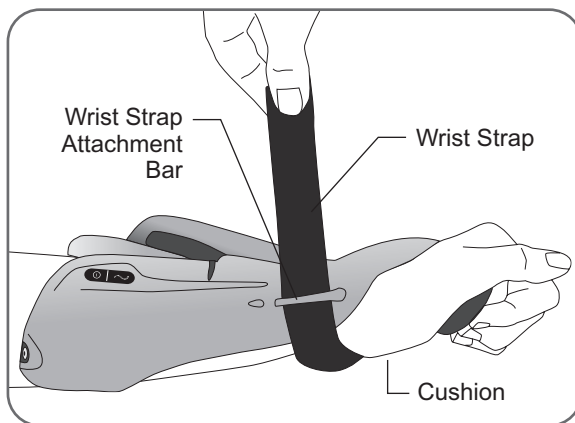

Figure 8-12: Attaching the Wrist Strap
8. Pull the Wrist Strap up and through the Wrist Strap Attachment Bar. See Figure 8-12.